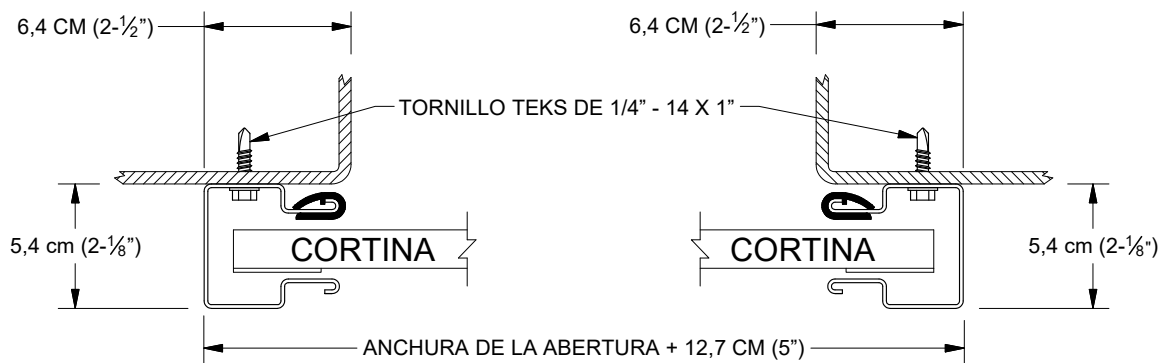

FIGURA 8: JAMBAS DE ACERO
- ▶ **JAMBAS DE ACERO:** $\frac{1}{4}$ " - 14 X 1". TORNILLO TEKS. VEA LA PÁGINA 9 FIGURA 8.